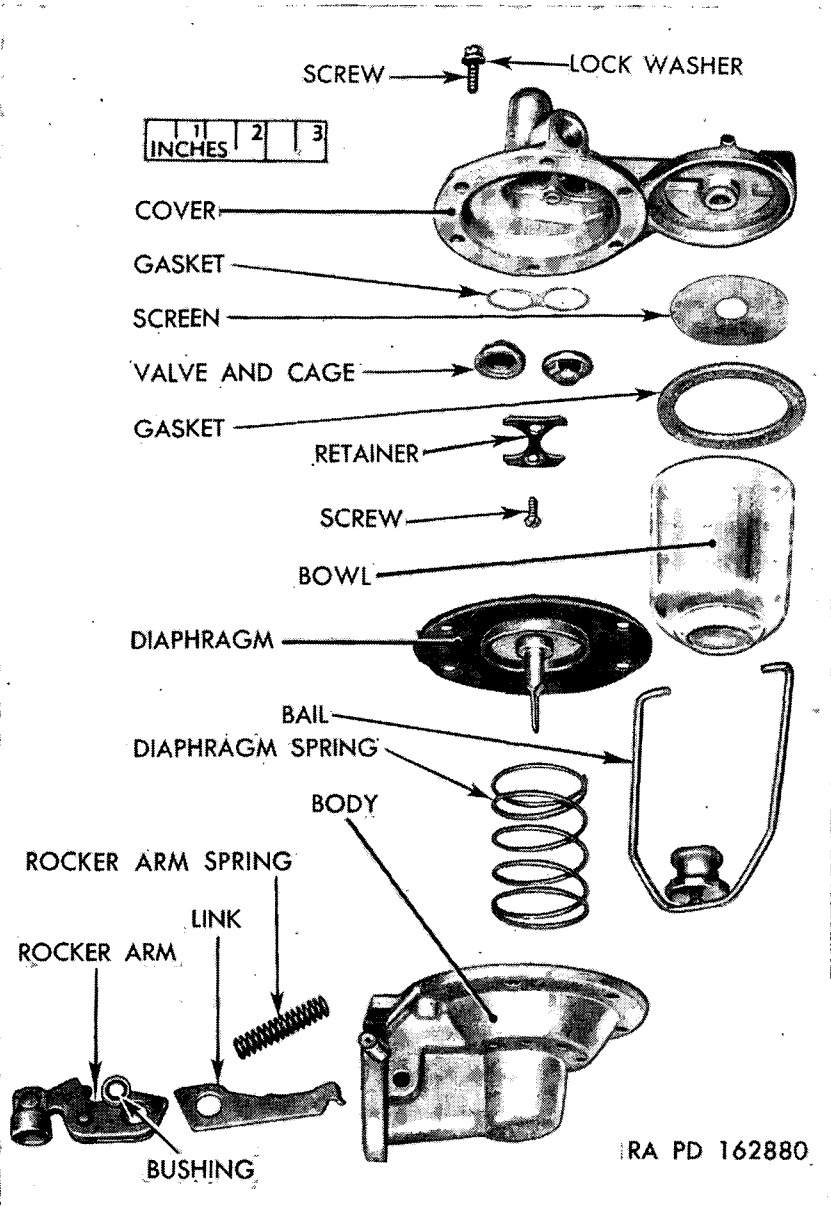

Figure 54. Fuel pump—disassembled (typical series BR construction).
(fig. 54)
a. *Assemble Body* (fig. 54).
- (1) Make an assembly of link and rocker arm by inserting bushing. Place assembly of rocker arm and link in body with link hook down. Aline rocker arm pin hole with hole in